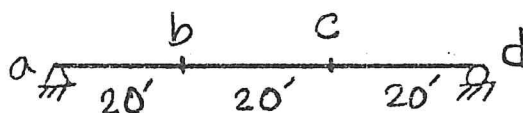

Fig. 1
1. (a) The left support of a girder **a-d** shown in Fig. 1 needs repair service. For this repair, the girder had to be supported temporarily at joint **b** on a hydraulic jack. The gross reaction due to self-weight of the girder at **a** is 60 kip and at **d** is 40 kip. Compute the vertical displacement at **b** caused by the jack to free the support at **a** and lift it (joint **a**) 1 in above its normal position when there is only girder's self-weight. At this lift, if an additional downward load of 20 kip is applied at **c**, find net vertical deflection at **b** after application of this live load. Given, $E = 29000 \text{ ksi}$, $I = 250 \text{ in}^4$. E and I are same for every section of the girder. Consider the deflection of the girder is primarily caused by the bending strain energy. Use relevant chart as attached. (23 $\frac{2}{3}$)